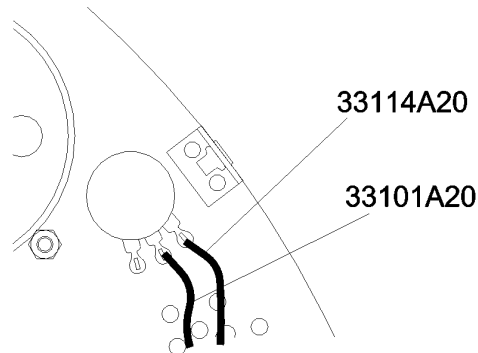

Figure 5
- 10.21** Solder Dimmer Rheostat as shown in Figure 5.